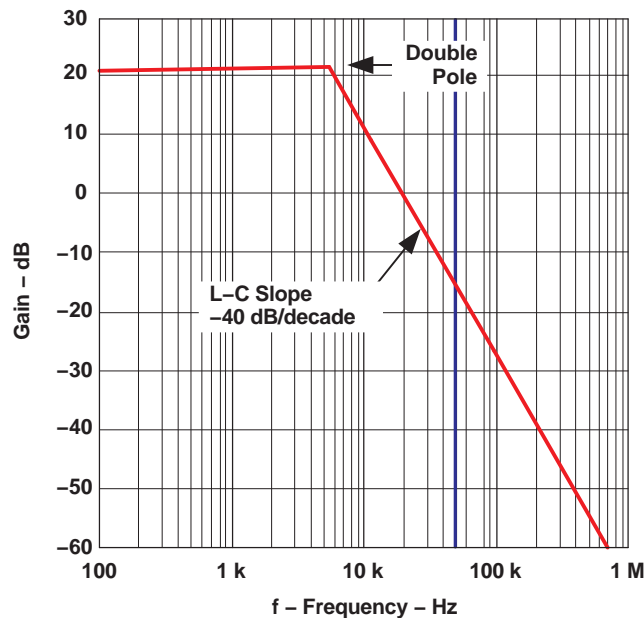

Figure 25. PWM and L-C Filter Gain
A Bode plot of the PWM and LC filter is shown in Figure 25.
4. From Figure 25, the required gain is calculated at 15.8 dB. Equation 45 sets the value for R_{PZ2} . A resistor for R_{PZ2} with value of 12.7 k Ω is used. C_{Z2} is calculated using Equation 49 and the desired frequency for the second zero, $C_{Z2} = 1475 \text{ pF}$. A 2200 pF capacitor is used.